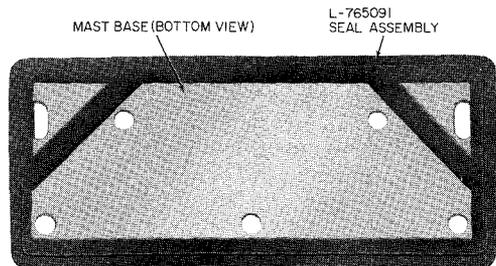

Fig. 40—Bottom View of Mast Showing Correct Position of Seal
- (b) Remove the paper backing from the L-765091 seal assembly (furnished with mast) and secure the seal to bottom of mast (Fig. 40).